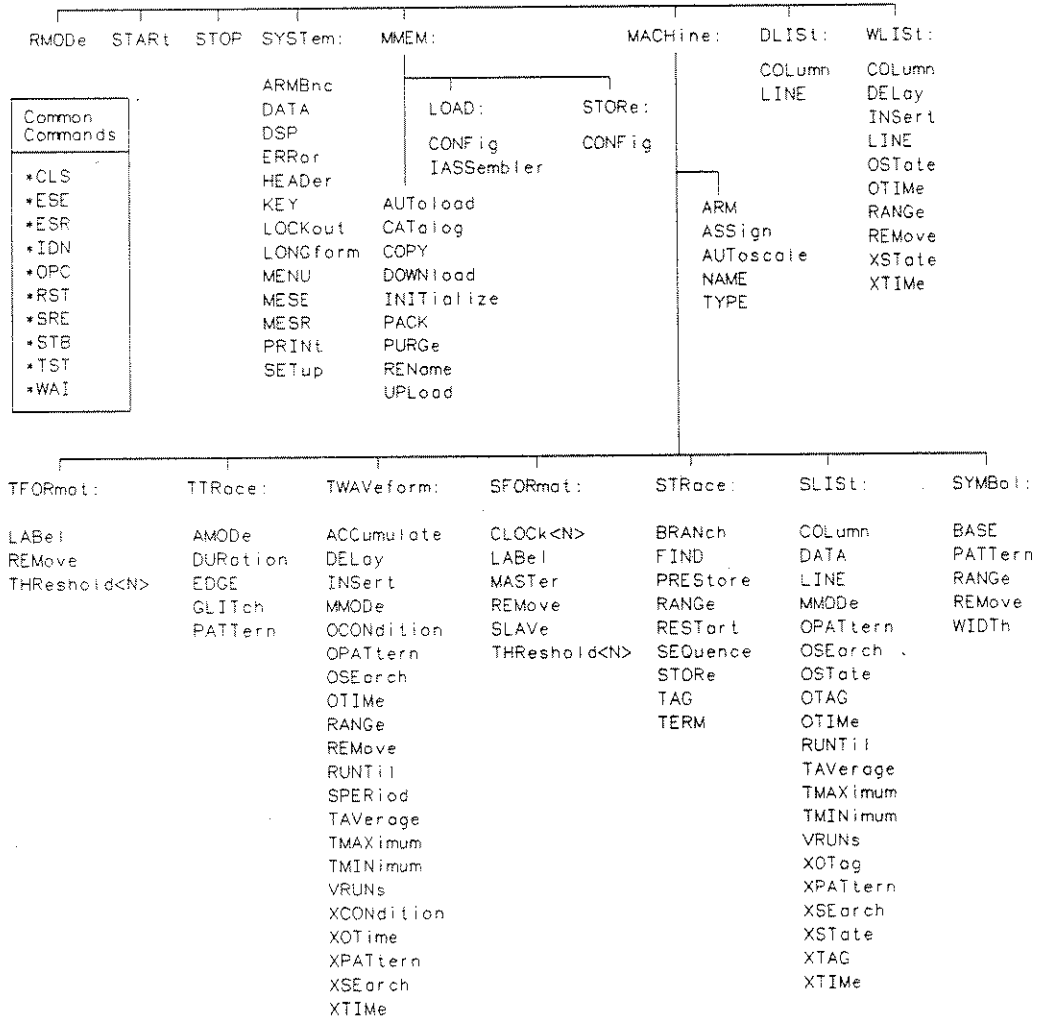

Figure 3-1. The HP 1650A/51A System Command Tree
The command tree (figure 3-1) shows all commands in the HP 1650A/51A logic analyzers and the relationship of the commands to each other. You should notice that the common commands are not actually included with the command tree. After a <NL> (linefeed - ASCII decimal 10) has been sent to the instrument, the parser will be set to the "root" of the command tree.
Tree Traversal Rules Command headers are created by traversing down the command tree. A legal command header from the command tree in figure 3-1 would be "MMEM:INITIALIZE." This is referred to as a compound header. A compound header is a header made of two or more mnemonics separated by colons. The mnemonic created contains no spaces. The following rules apply to traversing the tree:
- Executing a subsystem command places you in that subsystem (until a leading colon or a < program message terminator > is found). In the Command Tree, figure 3-1, use the last mnemonic in the compound header as a reference point (for example INITIALIZE). Then find the last colon above that mnemonic (MMEM:), and that is where the parser will be. Any command below that point can be sent within the current program message without sending the mnemonic(s) which appear above them (STORE, etc.).
The HP 1650A/51A programming commands are divided into three types: common commands, system commands, and subsystem commands. A programming command tree is shown in figure 3-1 and a programming command cross-reference is shown in table 3-2.